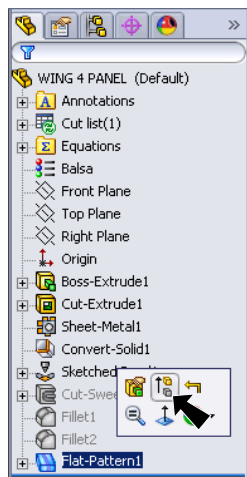
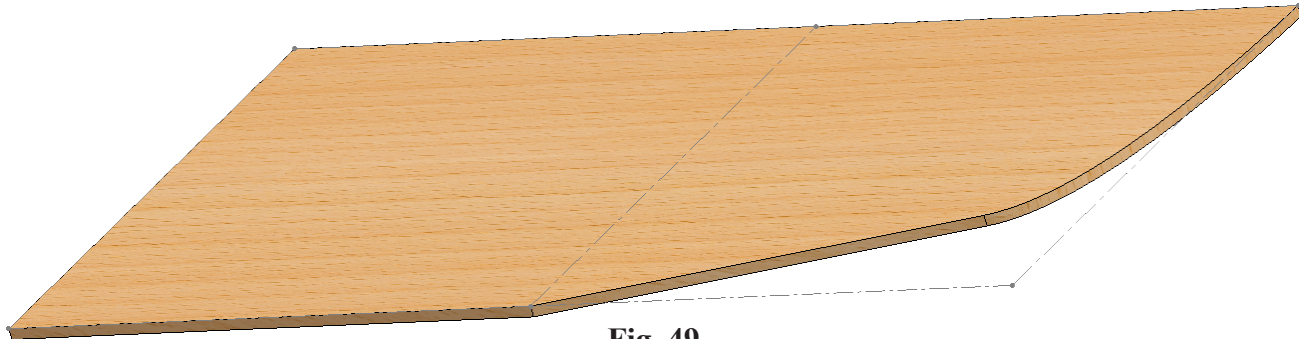

Fig. 48
Fig. 49
Step 3. To Flatten, click the **Flat-Pattern1** feature in the Feature Manager and click **Unsuppress**  in the menu, **Fig. 48** and **Fig. 49**.